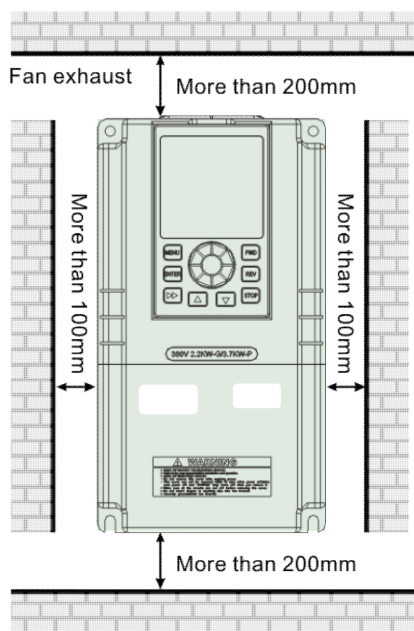

Fig.3-1 Mounting space and distance
- For the requirements on mounting space and distance, refer to Fig.3-1.